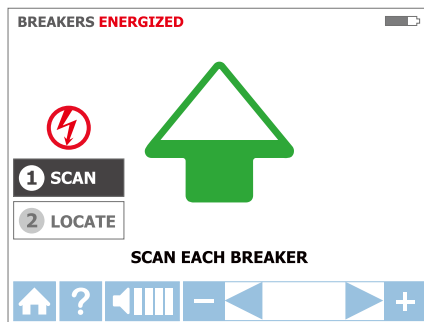

Figure 3.3c: SCAN mode – Scanning breakers/fuses
1. The unit will automatically start in 1 **SCAN** mode (Figure 3.3c).